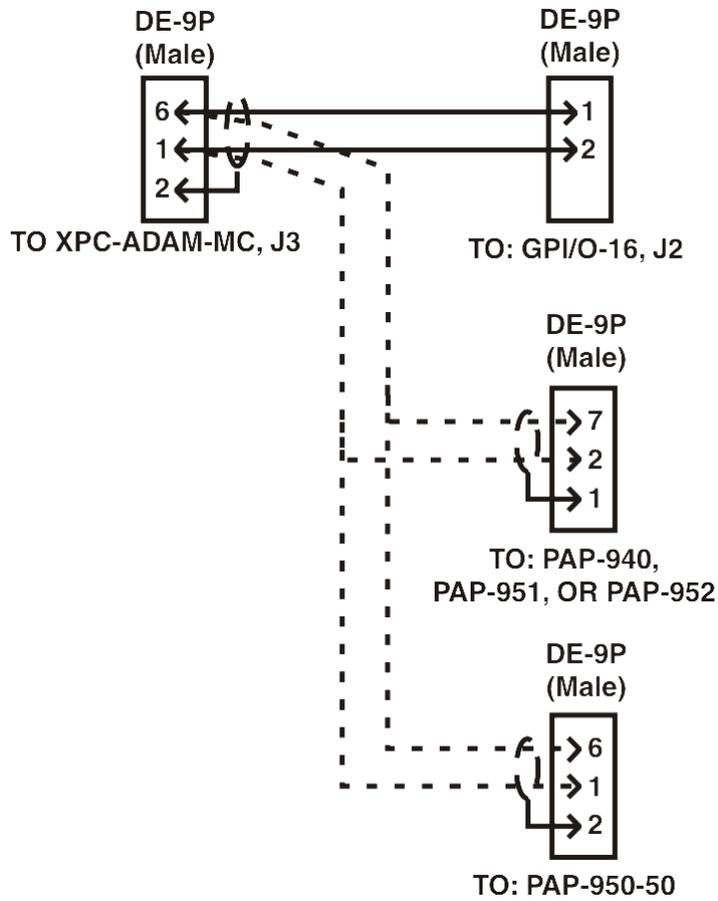

FIGURE 9. Y-Cable Diagram
1. Using a Y cable(Figure 9), connect the **J3 output** of the ADAM MC to the **J2** on the UIO-256/GPIO-16.